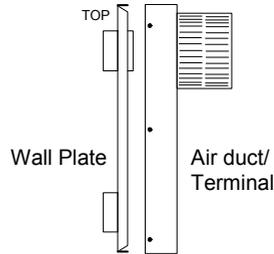

Figure 19
2. On the outside wall insert the spigots on the wall plate into the ducts ensuring that it is the right way up i.e. double spigot uppermost (see **Figure 19**).